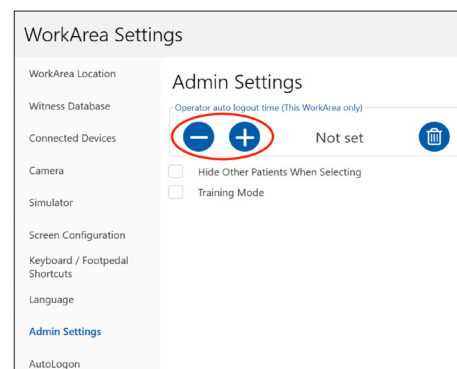

Figure 3-9 Admin Settings
4. Select number of seconds, using the plus and minus keys. See Figure 3-9